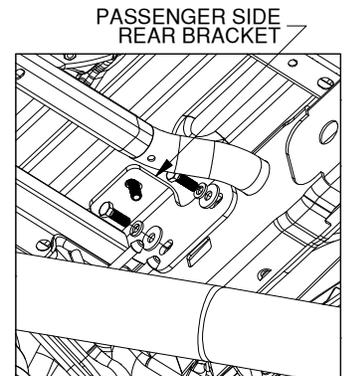

FIGURE C5: View looking up at passenger side frame.
- Install the passenger side rear bracket.** Locate the passenger side rear bracket, two M12 x 35mm hex head bolts (shorter), two 1/2" split lockwashers, and two 1/2" flat washers. Position the bracket under the installation location of the rear passenger side carriage bolt. Maneuver the bracket so that the 1/2" carriage bolt passes through the slot at the top of the bracket. Using 1/2" lockwashers and 1/2" flat washers, Thread the shorter (35mm) M12 hex head bolts into the frame through the holes in the bracket, see figure C5.